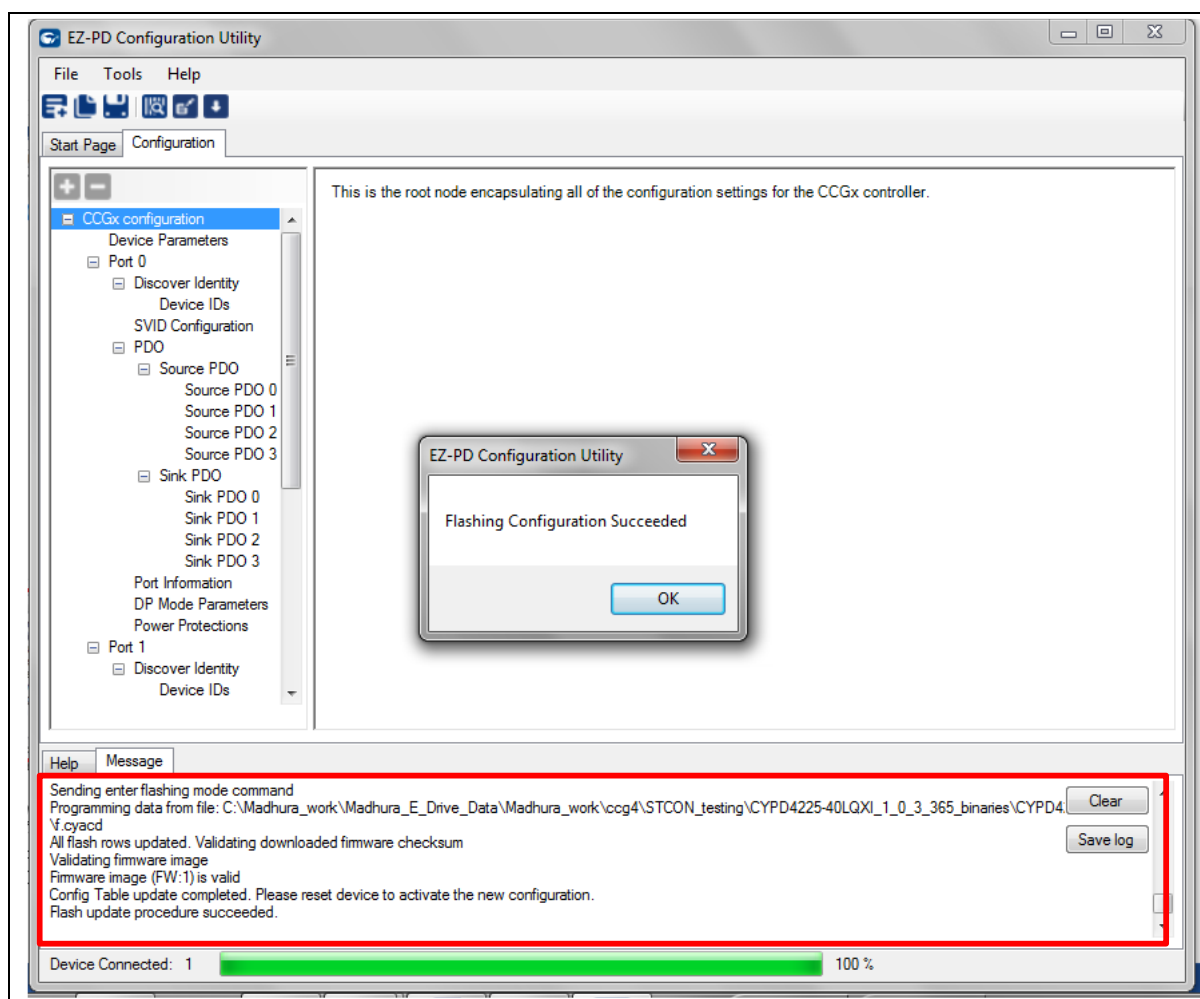

Figure 21 Message Showing Successful Update of Configuration Parameters
6. The successful programming of the new configuration file will be indicated by a message box with the message **Flashing Configuration Succeeded**. The **Message** window at the bottom of the utility also logs messages during each operation as shown in **Figure 21**.